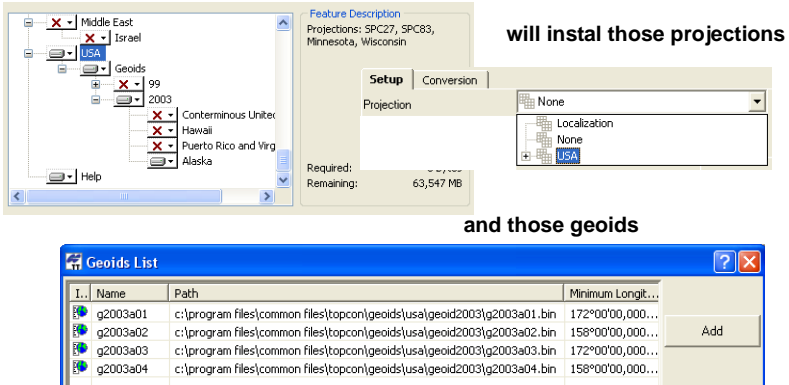

Figure 1-6. Example of Custom Setup Installing
4. The projection list contains the custom projections and those projections, which were highlighted in the process of installation (Figure 1-6).
- The geoid list contains the geoids, which were used in the previous version and those geoids, which were highlighted in the process of installation (Figure 1-6).